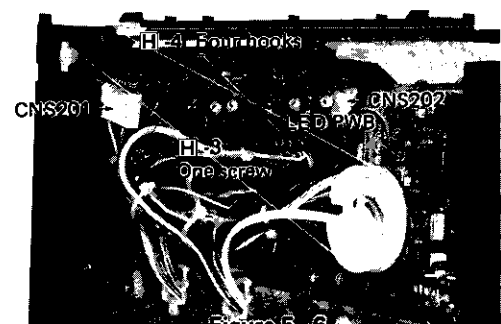

Figure 5-6
2. Pull out two sockets (CNS201 and CNS202). See Fig. 5-6.
3. Remove one screw from the LED PWB. See Fig. 5-6.
4. Detach four hooks from the LED PWB, and take the PWB out. See Fig. 5-6.